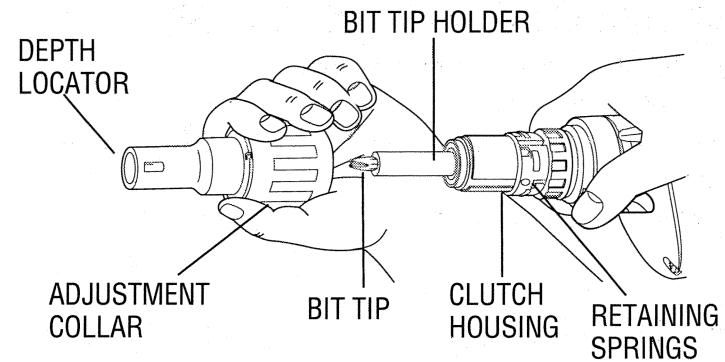

Figure 3
1. Pull forward on adjustment collar and remove it from clutch housing. (See Figure 3)